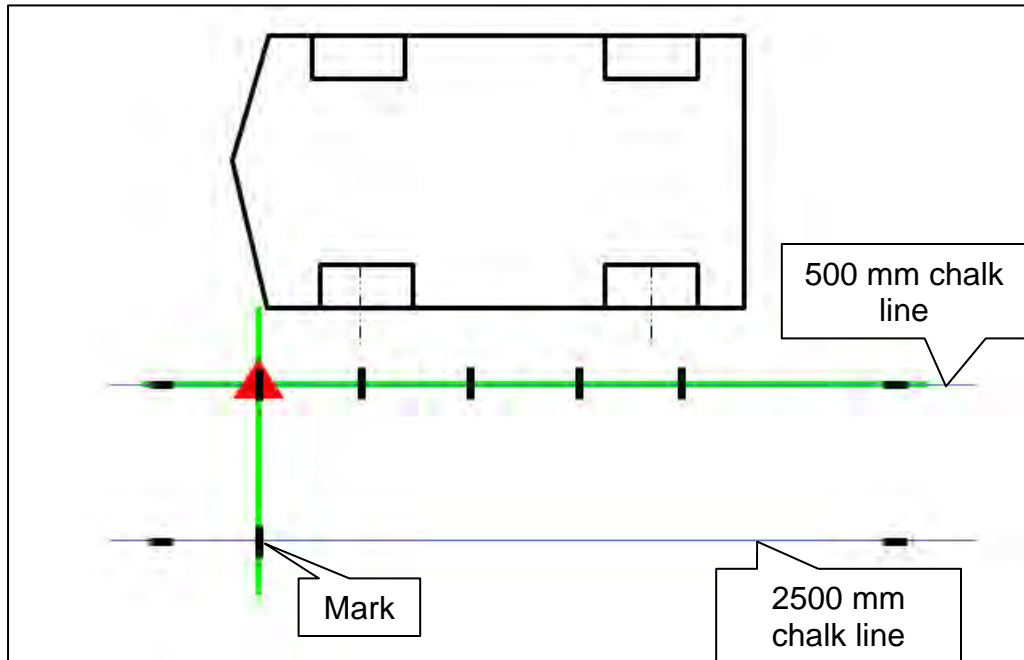

Figure 39
27. Move the laser level to the position shown in Figure 39, and then make a mark on the 2500 mm chalk line.